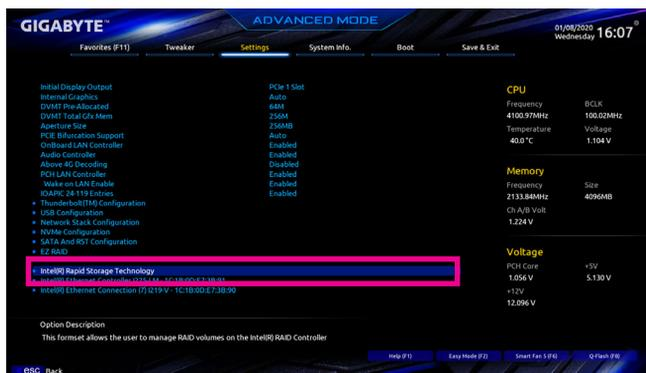

Figure 7
After the system reboot, enter BIOS Setup again. Then enter the **Settings** | **IO Ports** | **Intel(R) Rapid Storage Technology** sub-menu (Figure 7).